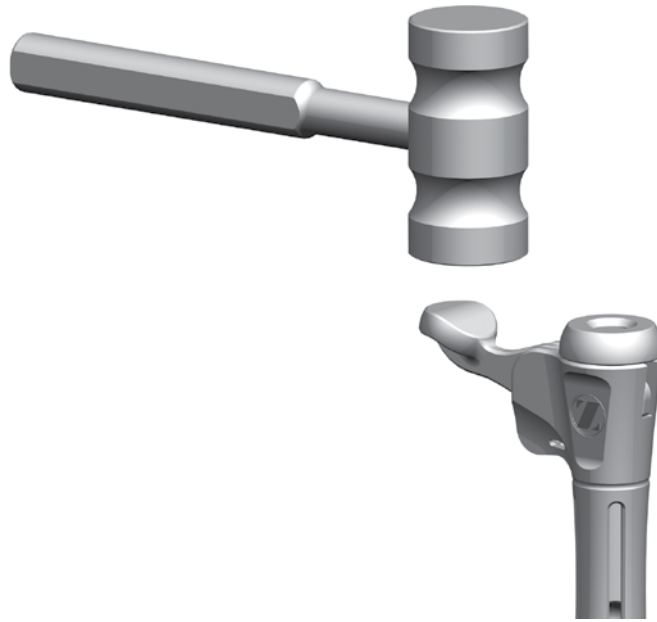

Figure 23
5. While holding the cemented tibial broach inserter/extractor handle, impact the extraction button to remove the cemented tibial broach from the bone (**Figure 23**). Avoid dislodging the cemented tibial sizing plate when removing the cemented tibial broach inserter/extractor handle.